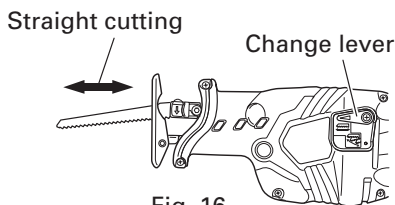
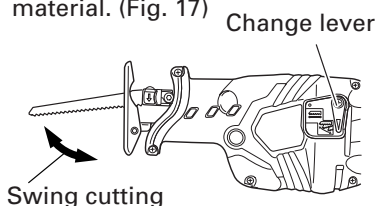

Fig. 16
Fig. 17
Two cutting systems can be selected with this unit. The first is straight cutting, in which the saw blade is moved linearly, and the second is the swing cutting, in which the saw blade is swung like a pendulum. (Fig. 16, Fig. 17)
You can perform straight cutting by setting the change lever widthwise. Straight cutting should normally be performed when cutting hard materials such as metal, etc. (Fig. 16)
Swing cutting is efficient since the saw blade forcibly bites into the material. (Fig. 17)
- (3) Use the dial to adjust the speed of the saw blade to suit your working conditions and materials.
- (4) You can cut smoothly if you set the change lever position to straight cutting (Fig. 16).
- (2) You can cut efficiently if the speed of the saw blade is set to dial scale "5".
- (3) You can cut efficiently if the change lever position is set to swing cutting (Fig. 17). Alternatively, you can cut cleanly if the change lever position is set to straight cutting (Fig. 16).